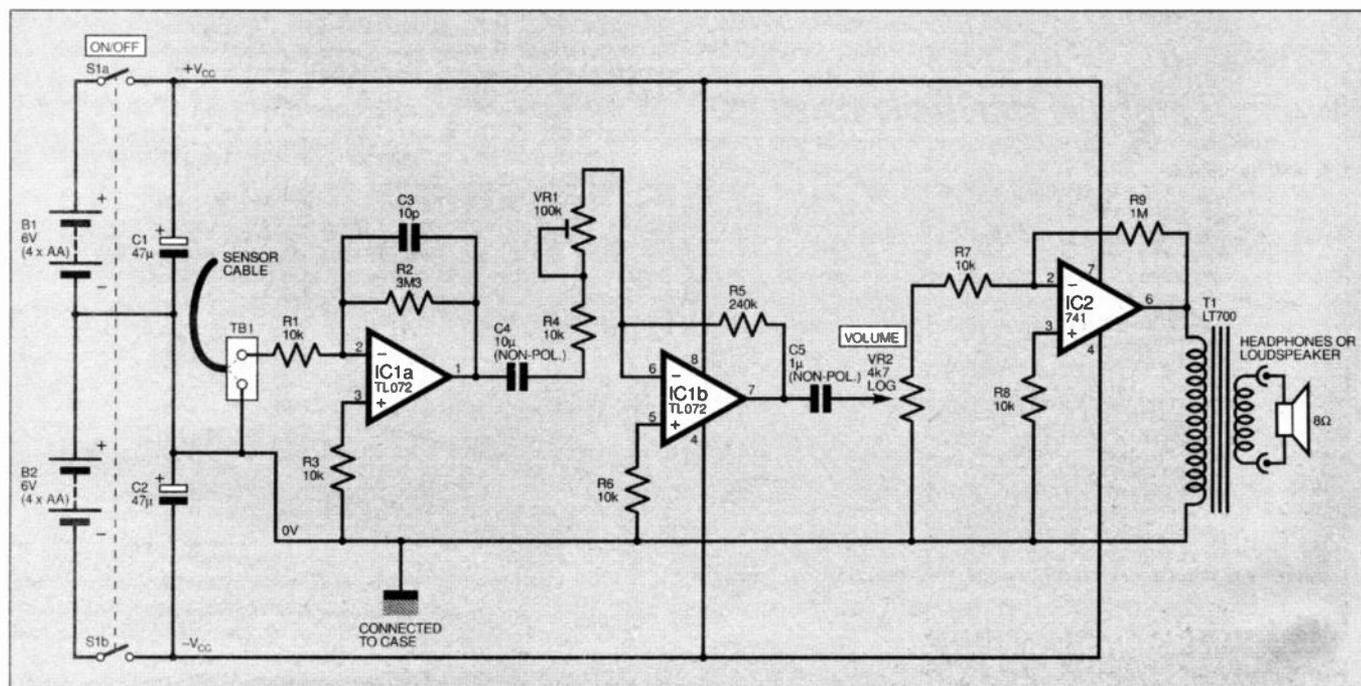

Fig. 1. Complete circuit diagram for the Distributed Microphone.
**T**HIS first project uses Vibetek 13 cable as a simple acoustic transducer, providing an amplified output to low impedance headphones or a small loudspeaker, although the latter may suffer from problems with acoustic feedback. The full circuit diagram of the Distributed Microphone amplifier is shown in Fig.1.
In the case of the circuit in Fig.1, IC1 provides two high gain inverting voltage amplifier stages. The first inverting op.amp provides a high input impedance interface to the sensor cable, with a voltage gain of 330; the capacitor C3 provides some high frequency roll-off.